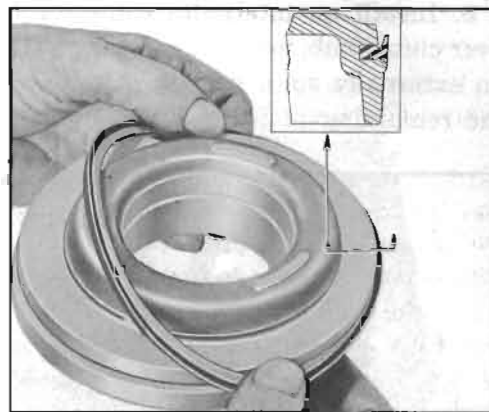

Figure 5-83—Replacement of Clutch Piston Outer Seal
4. Inspect clutch piston outer seal and replace if hardened, broken, or has turned edges. Install new seal with lip extending over the smaller diameter land of piston. See figure 5-83.